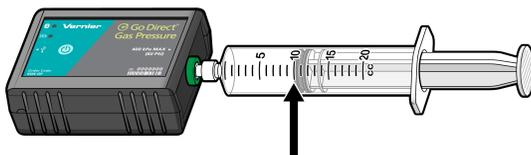

Figure 1
The primary objective of this experiment is to determine the relationship between the pressure and volume of a confined gas. The gas we use will be air, and it will be confined in a syringe connected to a gas pressure sensor (see Figure 1). When the volume of the syringe is changed by moving the piston, a change occurs in the pressure exerted by the confined gas. This pressure change will be monitored using a gas pressure sensor. It is assumed that temperature will be constant throughout the experiment. Pressure and volume data pairs will be collected during this experiment and then analyzed. From the data and graph, you should be able to determine what kind of mathematical relationship exists between the pressure and volume of the confined gas. Historically, this relationship was first established by Robert Boyle in 1662 and has since been known as Boyle's law.
- b. With the 20 mL syringe disconnected from the Gas Pressure Sensor, move the piston of the syringe until the front edge of the inside black ring (indicated by the arrow in Figure 1) is positioned at the 10.0 mL mark.